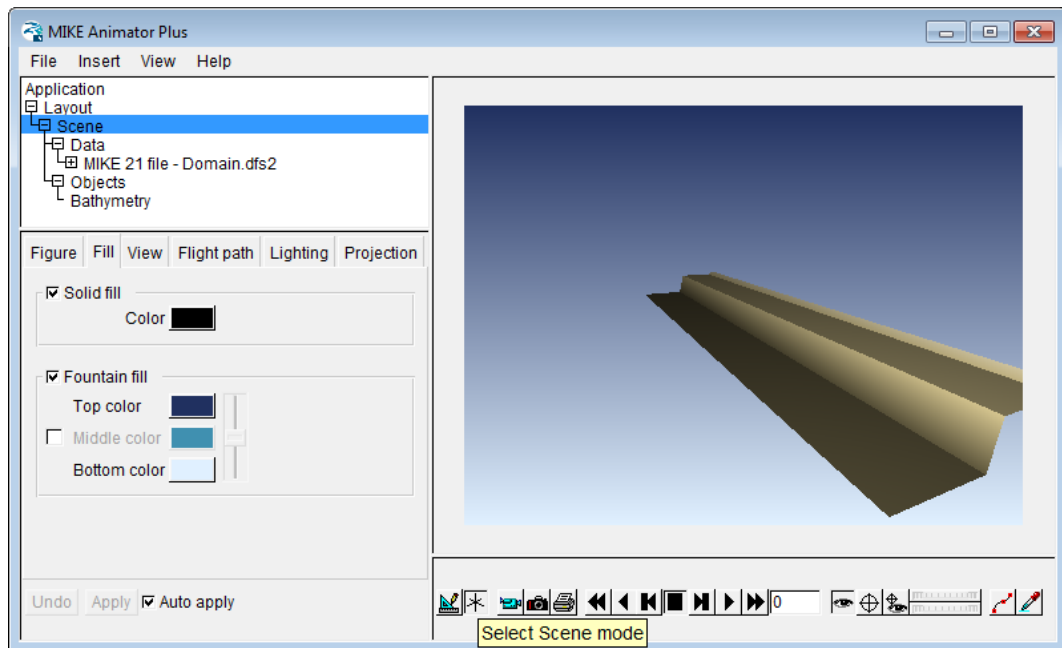

Figure 2.26 View of domain bathymetry after changing the fill colour and viewpoint
5. 'Select Scene mode' in the toolbar as shown in Figure 2.26 and change the viewpoint by click-and-drag in the graphics window.